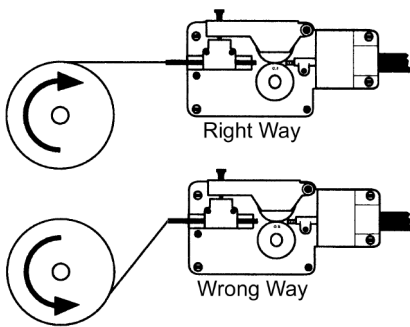

Figure 7. Wire Installation
- Place the spool on the spindle in such a manner that when the wire comes off the spool, it will look like the top illustration in Figure 7. The welding wire should always come off the top of the spool into the drive mechanism.